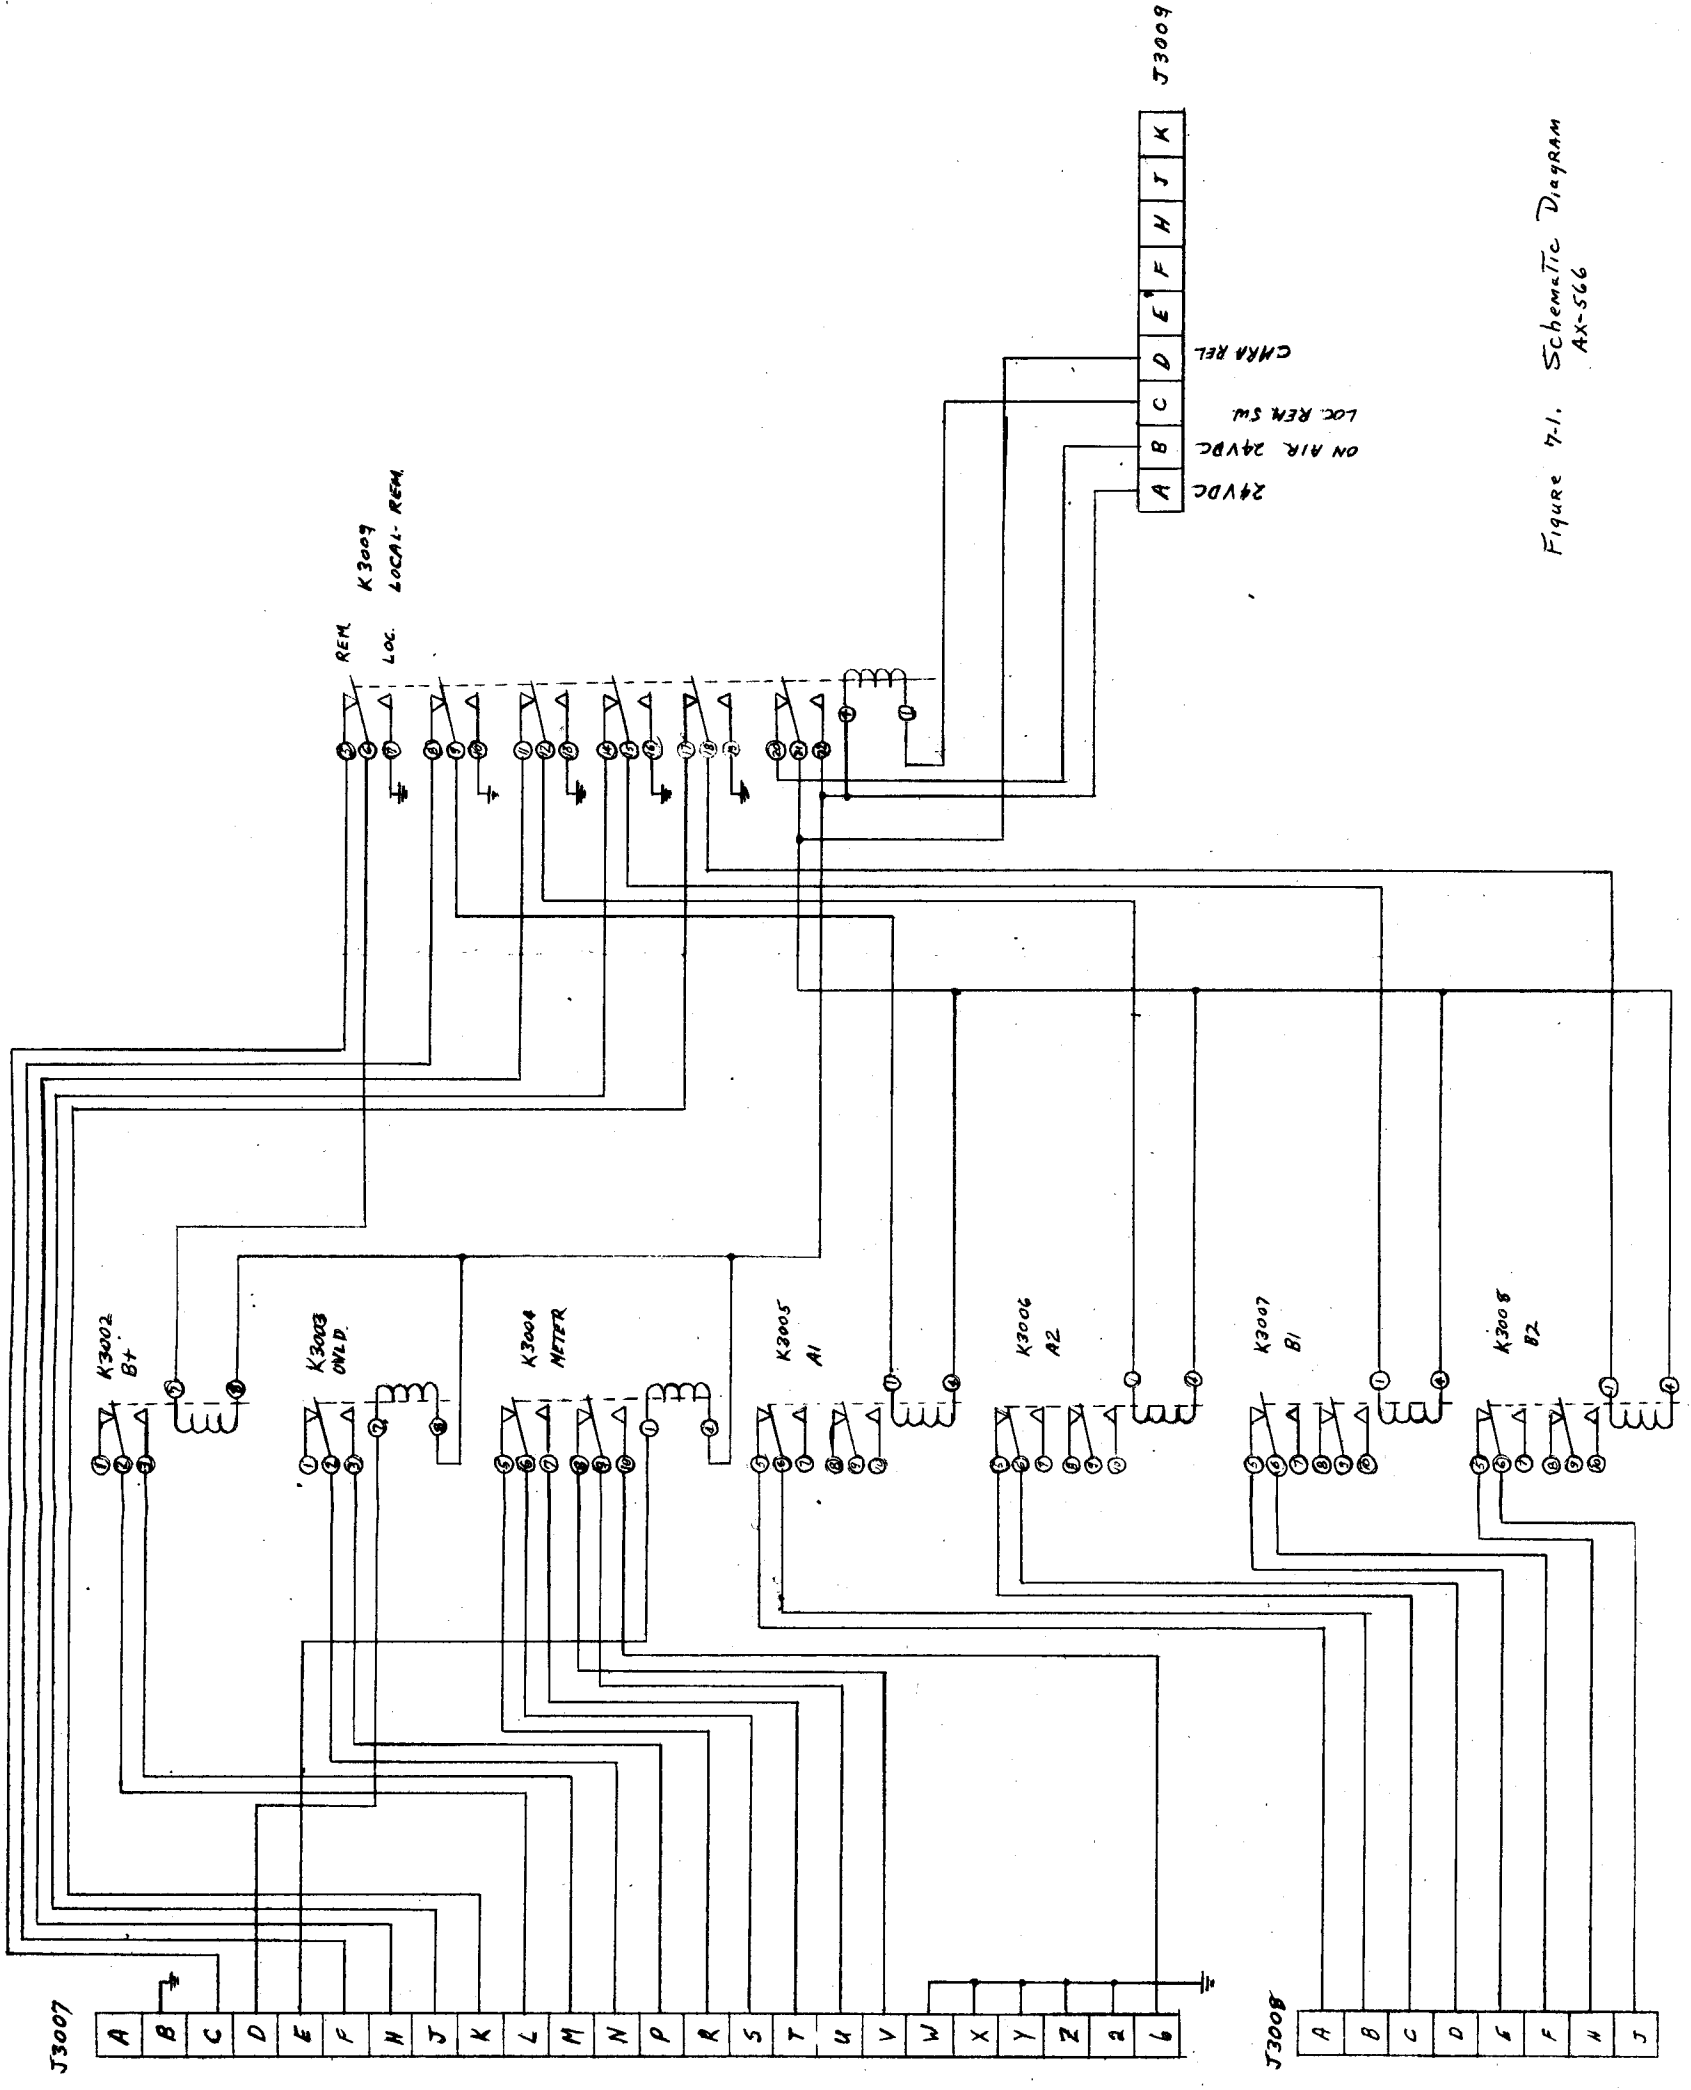

Figure 7-1. Schematic Diagram
b. Refer to figure 7-1 and make the necessary electrical connections between the relay panel and the external equipment.
Refer to figure 7-1. The AX566 relays can be operated locally or from a remote location. An external ground signal applied to pin "C" of J3007 determines the mode of operation.